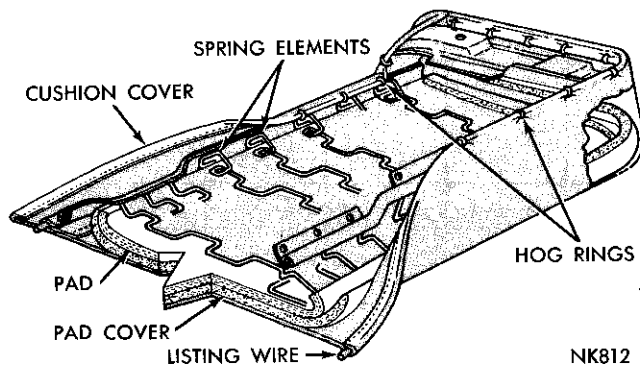

Fig. 38—Seat Cushion Build-Up (Bench Type)
(2) Inspect the spring pad and pad cover for damage and also make certain the pad and pad cover (Fig. 38) are centered on the spring assembly.
(3) Insert the listing wires (Fig. 38) into the new cushion cover.
(4) Center the new cover on the cushion assembly and draw the cover over the corners, working out all wrinkles.
(5) Carefully turn the cushion assembly bottom side up, being careful not to disturb the pad and cover.
(6) Position the listing wire up to the spring elements and starting from the center, use hog rings and attach the new cover to each spring element. Work alternately toward each corner.
(7) After the new cover has been completely attached, turn the cushion right side up and inspect for wrinkles. Work out all wrinkles as necessary.